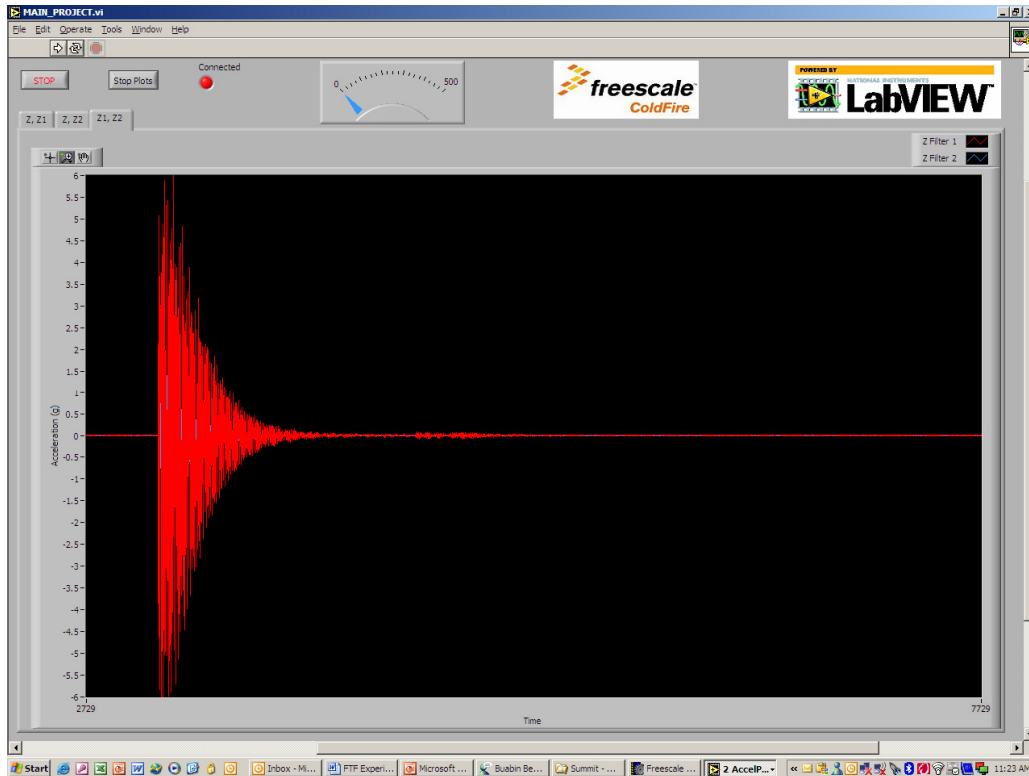

Figure 4c: Band pass and cascaded filtered signal
- l. The tab labeled “Z1, Z2” displays the band pass filtered signal and the signal at the output of the cascaded filters (Figure 4c).